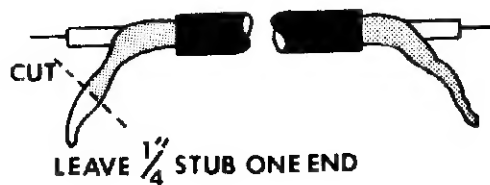

Figure 2 - Co-ax detail.
- () Referring to figure 2, prepare both ends of the cable by stripping away 1/2 inch of the outer insulating sleeve to expose the shielding wire. Using a pencil or other suitable pointed object, carefully unbraid the shielding wire, pull to one side, twist tightly together and "tin". This will leave approximately 1/2 inch of the insulated inner conductor exposed. Strip 1/4 inch of the insulation from the inner conductor and twist and "tin" the exposed strands. At one end of this piece of co-ax, cut the shield so that a stub 1/4 inch long remains (see figure 2). In a later step this stub will connect to the circuit board. DO NOT shorten the shield at the other end of the co-ax.